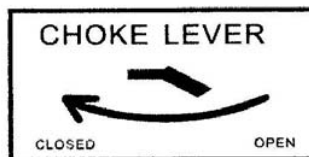

Figure 7- Choke in the “closed” position (refer to choke location)
4. Move the choke lever to the "CLOSED" position (see *figure 7*).